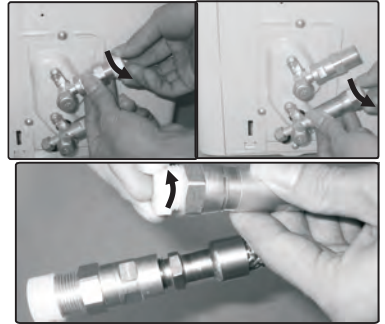

Fig.21
2. Do not remove the plastic seals from the outdoor unit and the appropriate refrigerant pipes until immediately before you connect them, Fig.21.